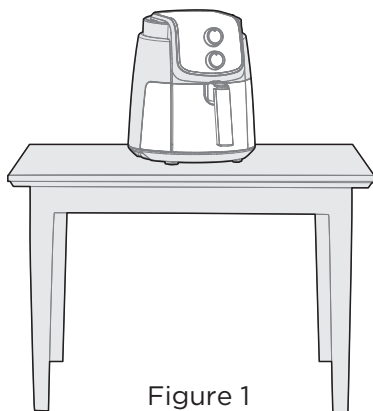

Figure 1
- 1 The product should be stably placed on a flat table (Figure 1), so that the power cord has a sufficient length to be plugged into the socket, and the air around the product should be kept in circulation, and should not be close to flammable items.